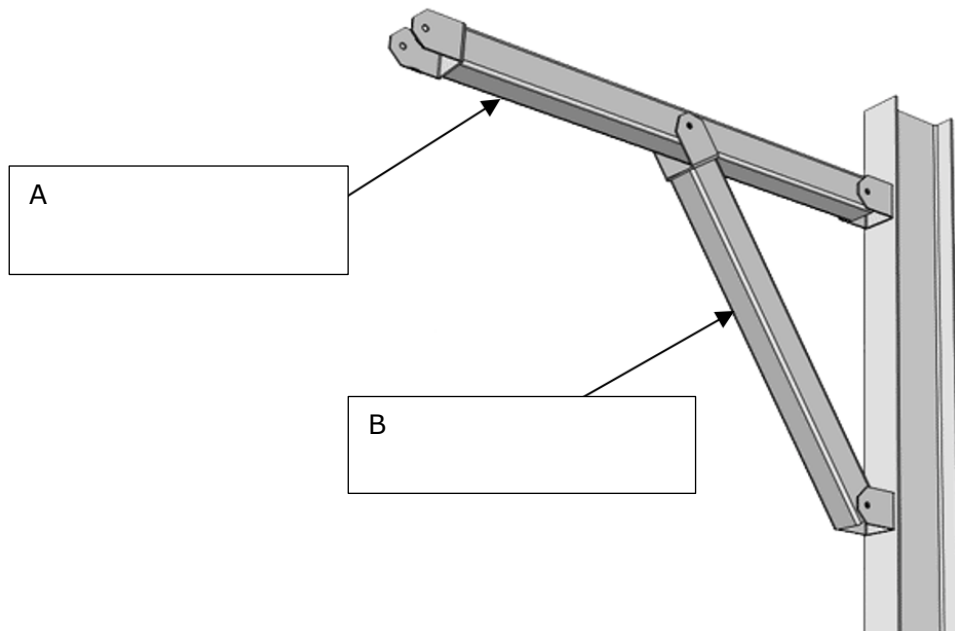

Figure 4: Structure
b. Label parts A and B in the structure shown in Figure 4 below.
c. Describe the function of the parts labelled A and B in Figure 4 in Question 4b.